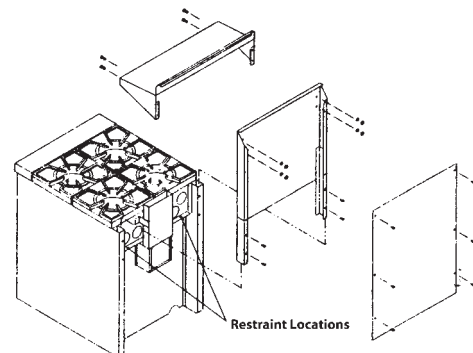

Figure 1
4. Slide backsplash into the side-supports on back of unit, and secure with #10 x 5/8" sheet metal screws. (Fig. 1)